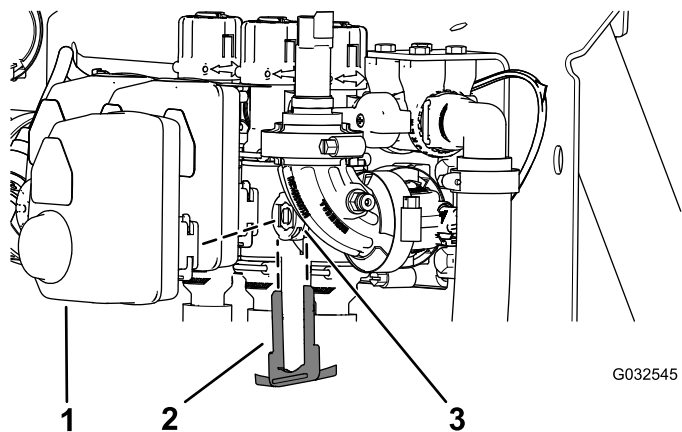

Figure 122
2. Remove the retainer that secures the actuator to the manifold valve for the section valve or agitation valve (Figure 122).